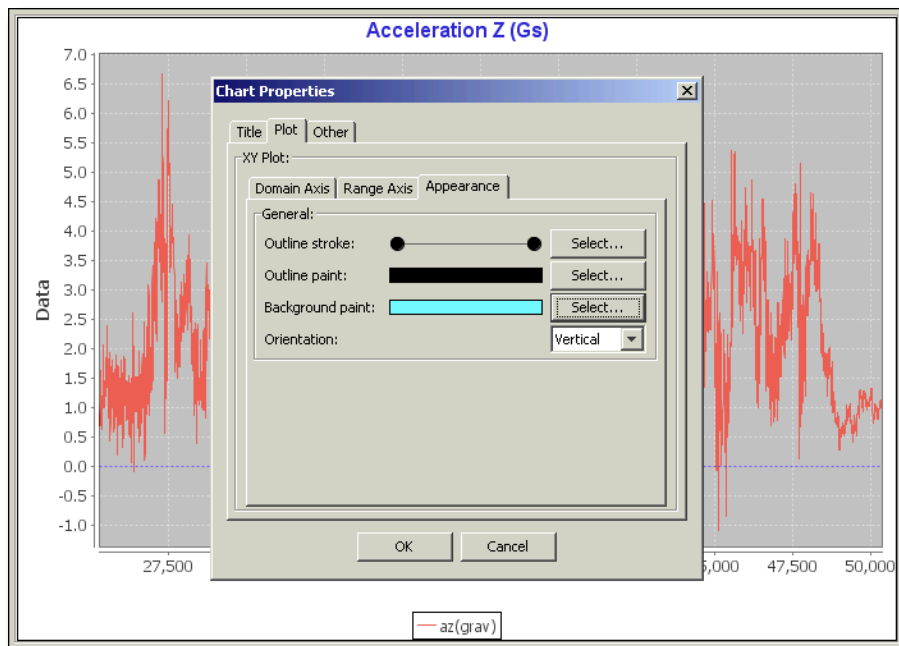

Figure 21
- In the **Appearance** tab we can customize as seen in figure 21: